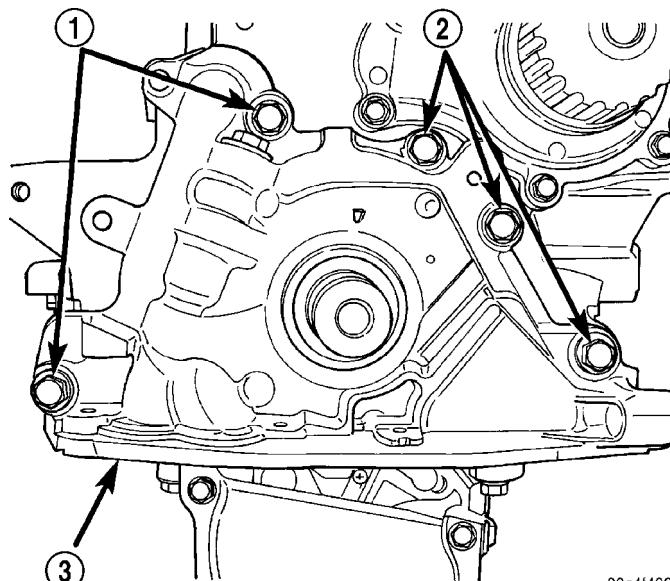

Fig. 96 Oil Pump
(7) Remove oil pick-up tube.
(8) Remove oil pump (Fig. 96) and front crankshaft seal.
(3) Prime oil pump with engine oil before installation.
(4) Align oil pump rotor flats with flats on crankshaft. Install the oil pump to the block (Fig. 96).